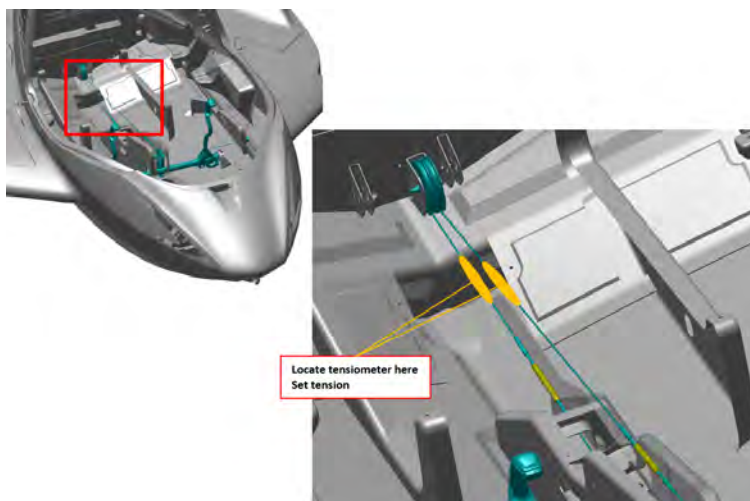

FIGURE 9-34
10. Use a tensiometer at least 8 in away from turnbuckles to rig both the upper pitch control cable and lower pitch control cable (cable thickness = 1/8 in). Adjust turnbuckles as required to set cable tension to 20 – 35 lbs. Refer to Figure 9-34. Operate tensiometer per its manufacturer's instructions.